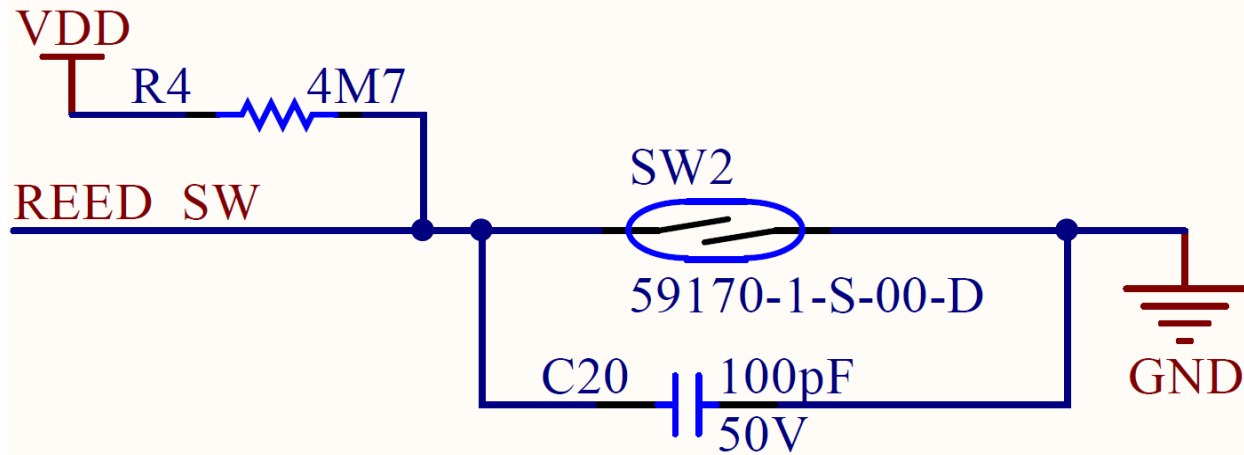

Figure 3-4: Reed Switch Schematic
There is one (1) reed switch available for user input. The reed switch is NO (Normally Open) and contains a very weak (4.7 MΩ) pull-up so the reed switch is an active low device as shown in Figure 3-4.